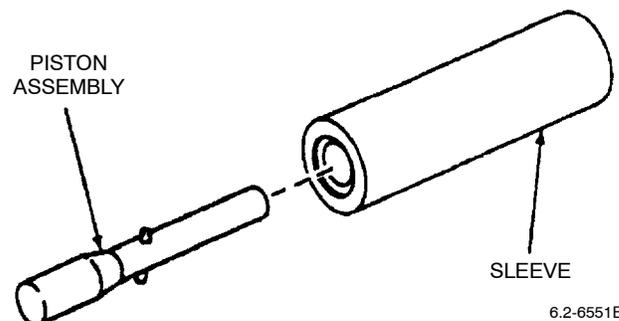

Figure 3. Trial Fit Piston
a. Trial fit the piston into the sleeve. Piston should slide easily into sleeve allowing 1/8-in. of piston to protrude (Figure 3).